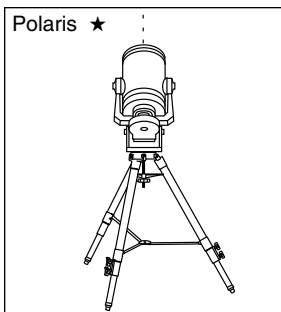

Fig. 22: Mount too far East.
- a. If the star drifts South (or down), the telescope's polar axis is pointing too far East (Fig. 22).
- d. Move the wedge in azimuth (horizontally) to effect the appropriate change in polar alignment. Reposition the telescope's East-West polar axis orientation until there is no further North-South drift by the star. Track the star for a period of time to be certain that its Declination drift has ceased. (Please note that Figs. 22, 23, 24, and 25 show the telescope pointed in the 90 degree position, and not the 0 degree position that is required for "Drift" method alignment. This is done to illustrate the position of the pole star relative to the polar axis of the telescope.)